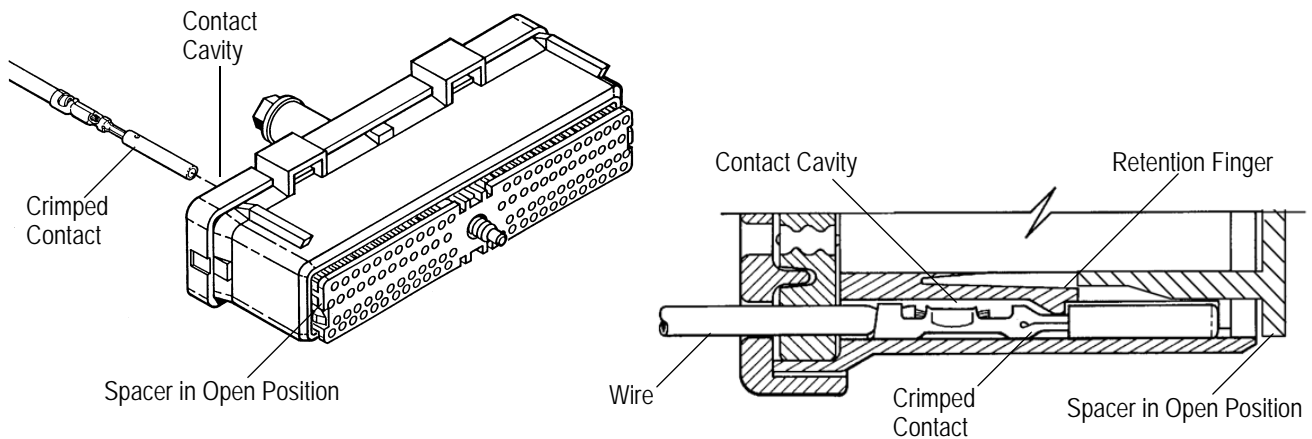

Figure 2
2. Each contact must be pushed straight into the appropriate contact cavity as far as possible. The wire of the contact must be pulled using a force between 8.9 and 13.3 N [2 to 3 lbs] to ensure the contact cavity retention finger is holding the contact in place. See Figure 2.